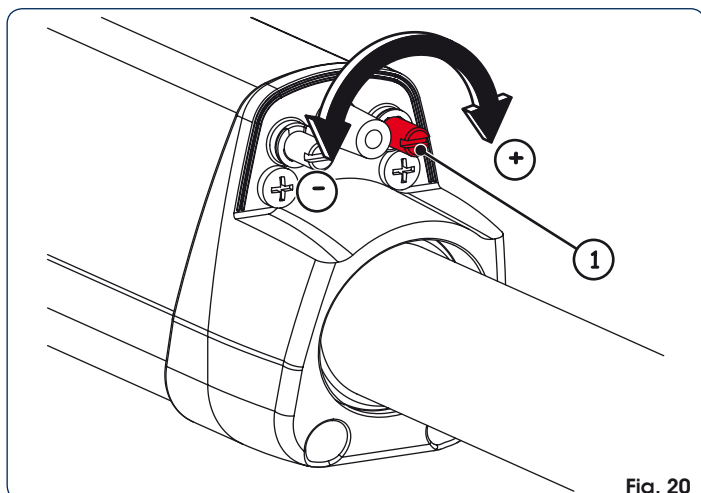

Fig. 20
2. To adjust the **closing limit switch FCC** turn the adjusting screw clockwise, Fig.20 ref.①, to increase the rod stroke and counter-clockwise to reduce it.